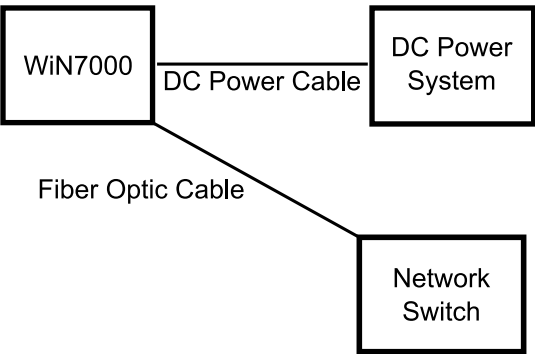

Figure 15: Base Station Power Connection
4. Connect the optical cable to the network switch (for more information, see Figure 15).